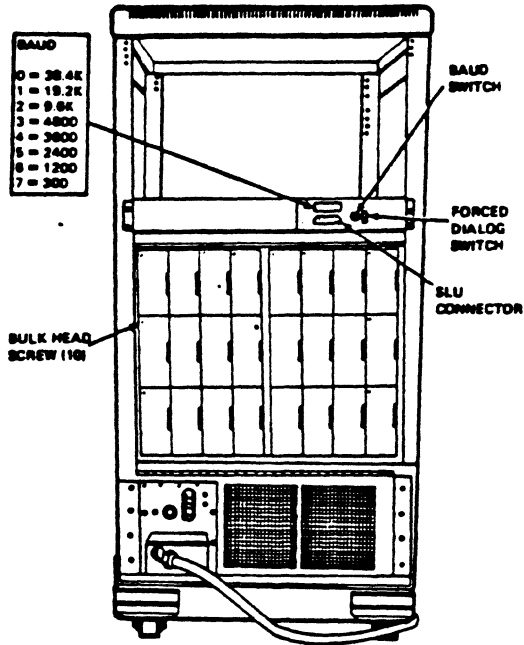

FIGURE 2-6 CABINET REARVIEW
1. Set the Forced Dialogue switch to OFF (0).
3. Set the Baud Rate switch to match the baud rate of the console terminal. (see Figure 2-6.)
5. Turn the power controller breaker switch to the off (0) position. See Figure 2-6.
2. Turn the power controller circuit breaker to ON (1). See Figure 2-6.